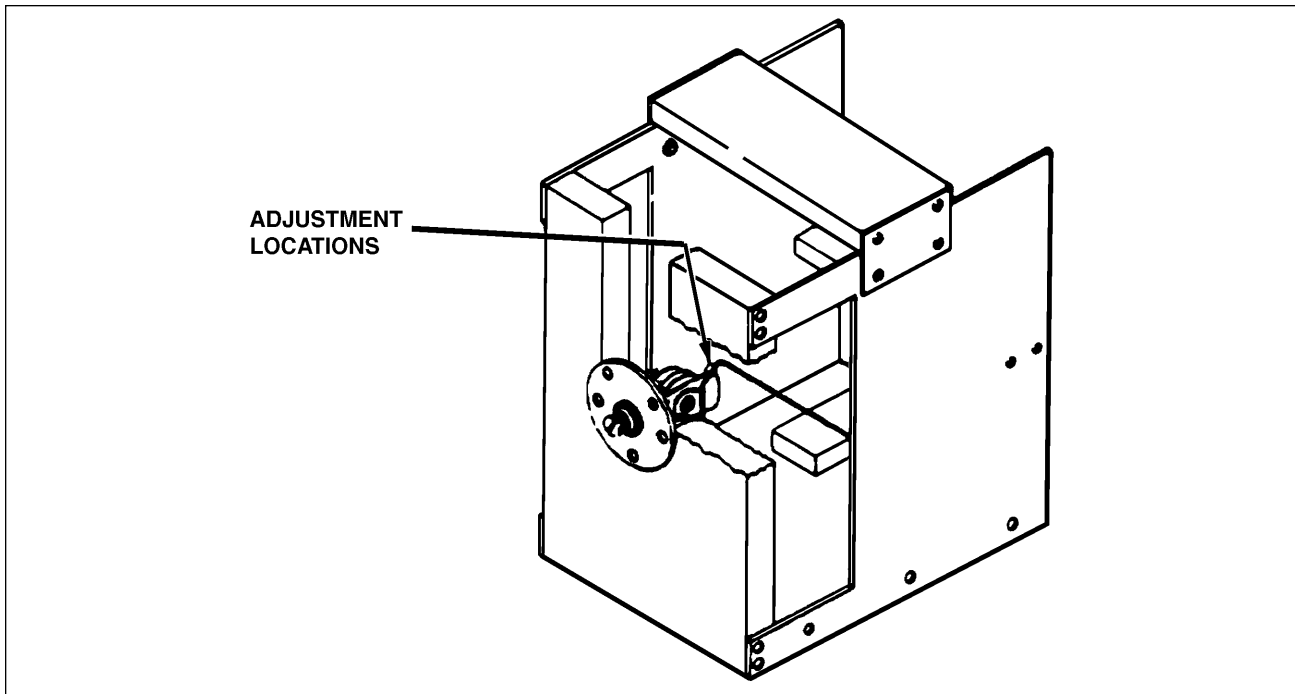

Figure 8-3b. Fuel Quantity Sender Unit (P/N 548-671) Adjustment
2. Ascertain that with the float just touching the top of a 0.27 inch spacer block, the resistance of the sending unit is $3 \pm .5$ ohms. Should the resistance of the sending unit not fall into this range, adjust the arm of the float assembly by gently bending it as indicated in Figure 8-3b. The entire float must be horizontal to the base of the fixture.